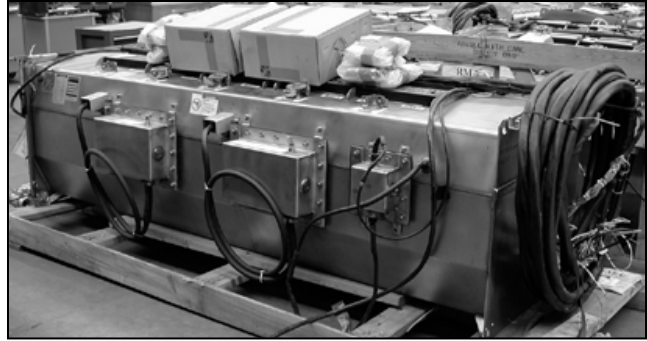

Figure 86. The main cables for the switchgear.
- STEP 1.** Uncoil the main cables that will be routed to the low-voltage enclosure. These cables have low-voltage connectors on their ends. See Figure 86.